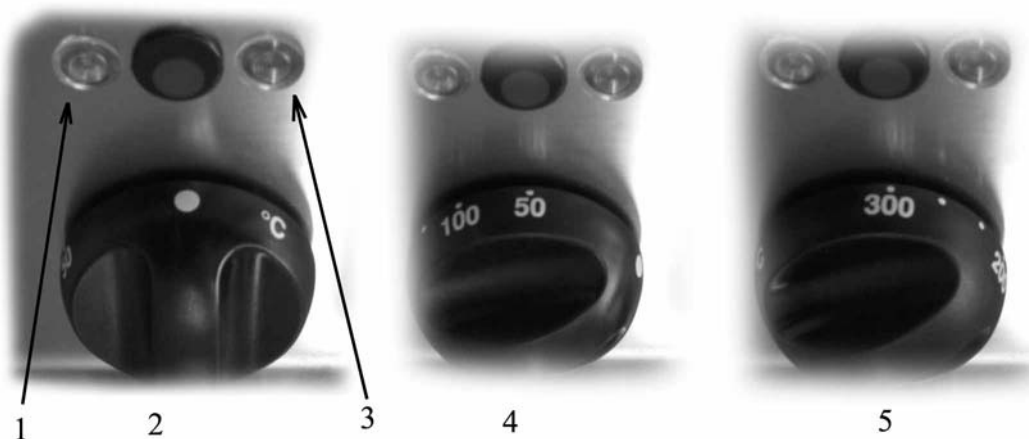

Fig. 2
Turn the knob (item 2 in Fig. 2) in a clockwise direction and the pilot lamp comes on (item 1 in Fig. 2). The line pilot lamp remains on until the knob is turned back to 0 position again (item 2 in Fig. 2). If you turn the knob further, the operation indicator light turns on (item 3 in Fig. 2). When the set temperature is reached it goes off.
You can select the temperature of the bottom of the tank between 50°C (item 4 in Fig. 2) and 300°C (item 5 in Fig. 2).
Switch the appliance off by turning the knob up to item 2 in Fig. 2. The line lamp will now turn off.